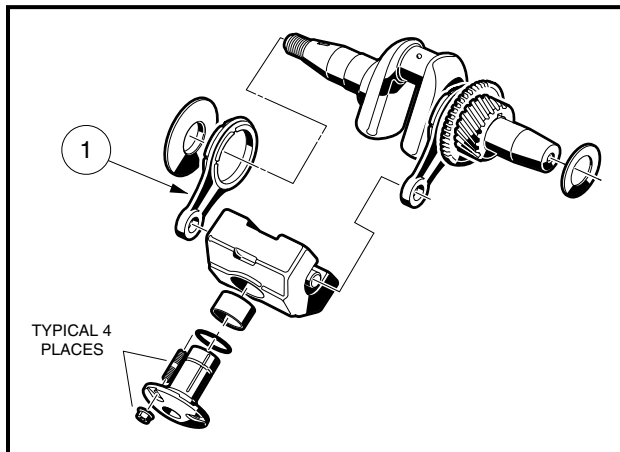

Figure 3-70 Inspect Link Rod
1. Clean and inspect the link rod (1) bearing surfaces. If the bearing surface of the small end is scored or damaged, replace the link rod. If the large end bearing is scored or damaged, the link rod must be replaced (**Figure 3-70, Page 3-34**).
NOTE: Do not remove the link rod on the PTO (power take-off) side unless link rod on the opposite end needs replacement. The crank-gear is very tightly fitted to the crankshaft so that it can transfer engine torque to the camshaft. Ignore Crankshaft and Counterbalance Disassembly (steps 2 through 6, page 3-32), if the link rod opposite of the PTO side passes inspection (**Figure 3-70, Page 3-34**).